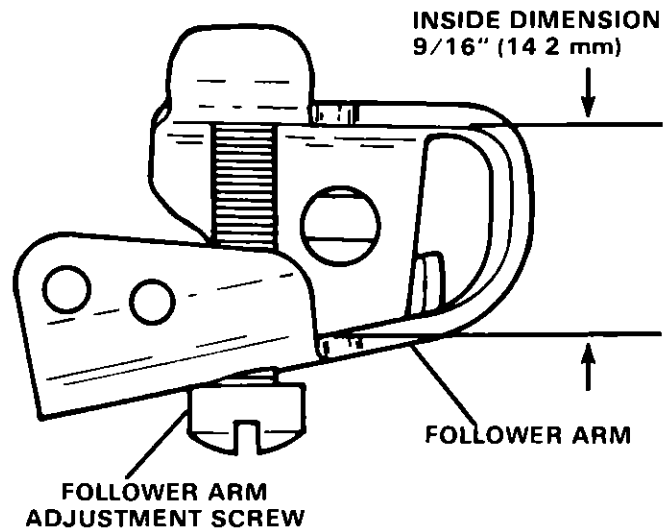

Figure 30. Setting Inside Dimension of Follower Arm.
- A Adjust follower arm adjustment screw so that inside dimension of follower arm is 9/16" (14.2 mm). Figure 30